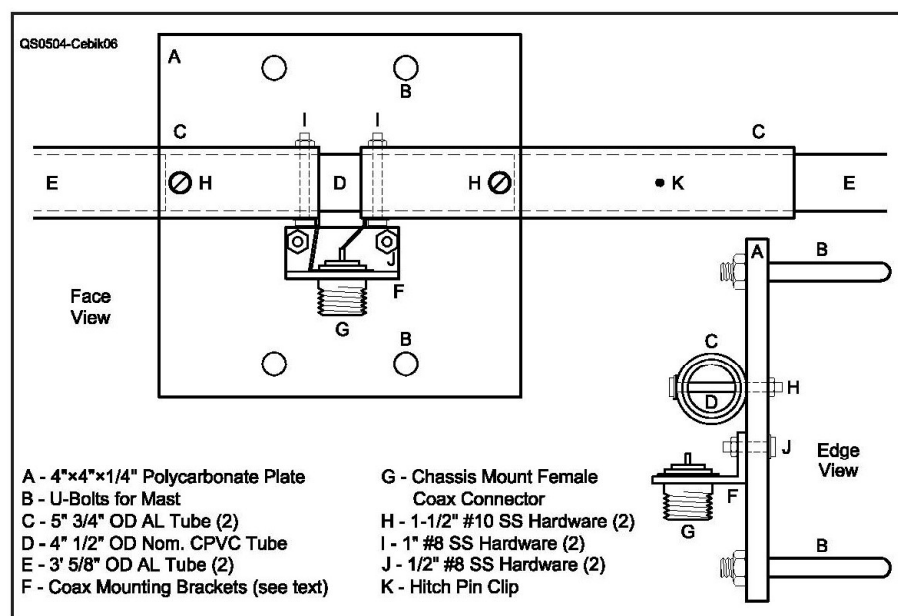

Figure 5—The element and feed-point mounting plate, with details of the construction used in the prototype.
For this field antenna, the hitch pin clip junctions, shown in Figure 5, hold the element sections in position. The overlapping portions of the tube make the actual electrical contact between sections. Due to the effects of weather, junctions of this type are not suitable for a permanent installa-
2. The center hub: mounting and feed-point assembly. I constructed the plate for mounting the element and the mast from a 4x4x $\frac{1}{4}$ inch thick scrap of polycarbonate (trade name Lexan), as shown in Figure 5. You may use other materials as long as they will handle the element weight and stand up to field conditions.
I mounted a single-hole female UHF connector on a bracket made from a scrap of $\frac{1}{16}$ inch thick L-stock that is 1 inch on a side. I drilled the UHF mounting hole first, before cutting the L-stock to length and trimming part of the mounting side. Then I drilled 2 holes for $\frac{1}{2}$ inch long #8 stainless steel bolts about 1 inch apart, for a total length of L-stock of about $1\frac{1}{2}$ inches. The reason for the wide strip is to place the bolt heads for the bracket outside the area where the mast will meet the plate on the back side. Note in Figure 5 that the bracket nuts are on the bracket-side of the main plate, with the heads facing the mast. The bracket-to-plate mounting edge of the bracket needs to be